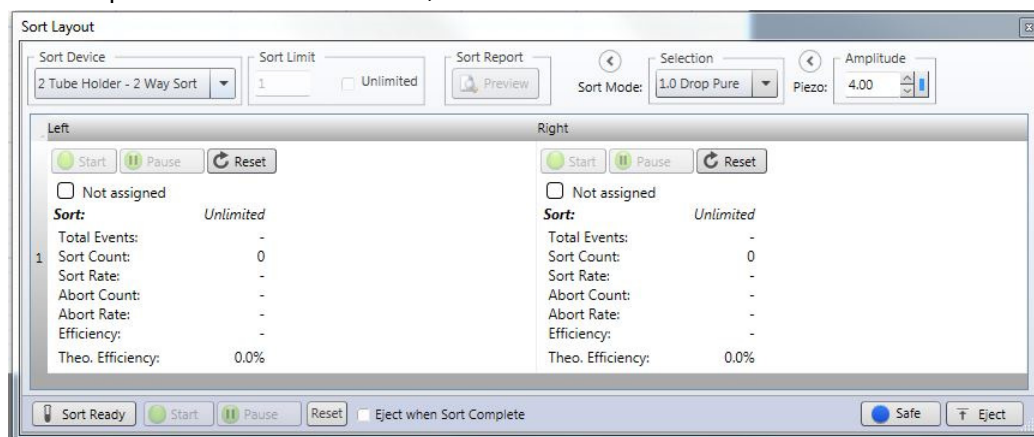

Figure 14. The Sort Layout pane
- 5.8.3 Before sorting can be started the Drop Delay needs calibrating with Accudrop beads. Load the Accudrop workspace under Tim. Load the accudrop beads on the sample line and start acquiring signal. On the Pressure Console, click Accudrop to insert the optical filter in front of the Illumination laser. In the Sort Layout pane (Figure 14), select Accudrop in the Sort Device menu, and start the sort.
After calibrations and compensation are established. The desired Sort Device is selected in the Sort Layout (Figure 14). Sorting cannot proceed until gates are entered in any sort device used (Figure 15). The gates used for sorting must be drawn in DSP parameters. Once this is setup, click Sort Ready on the Sort Layout (Figure 14) to move the collection devices into the proper location. Start the sample on the Pressure Console and start the sort on the Sort Layout. Adjust the Sample offset pressure so that the event rate is less than 4000. Please note, the event rate can be pushed higher if desired but the efficiency of the sort will decrease. Observe the drop shape and location. If the breakoff point changes dramatically, the Drop Delay will need to be recalibrated as in 5.8.3.. The Piezo Amplitude in the Sort Settings pane will need adjusting over time to keep the sort streams working properly.